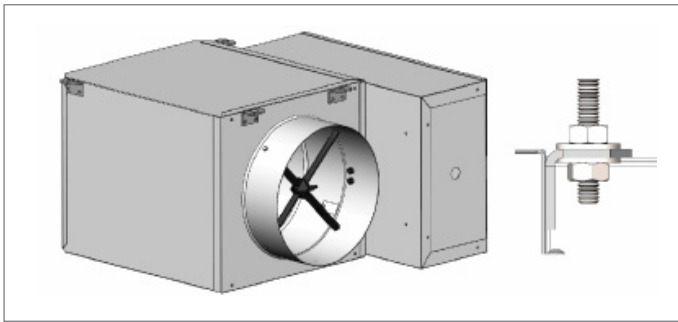

Figure 3: Factory Installed Hanger Brackets (field supplied rod and nuts).
- Figure 3 illustrates the use of optional factory installed hanger brackets for suspending units.